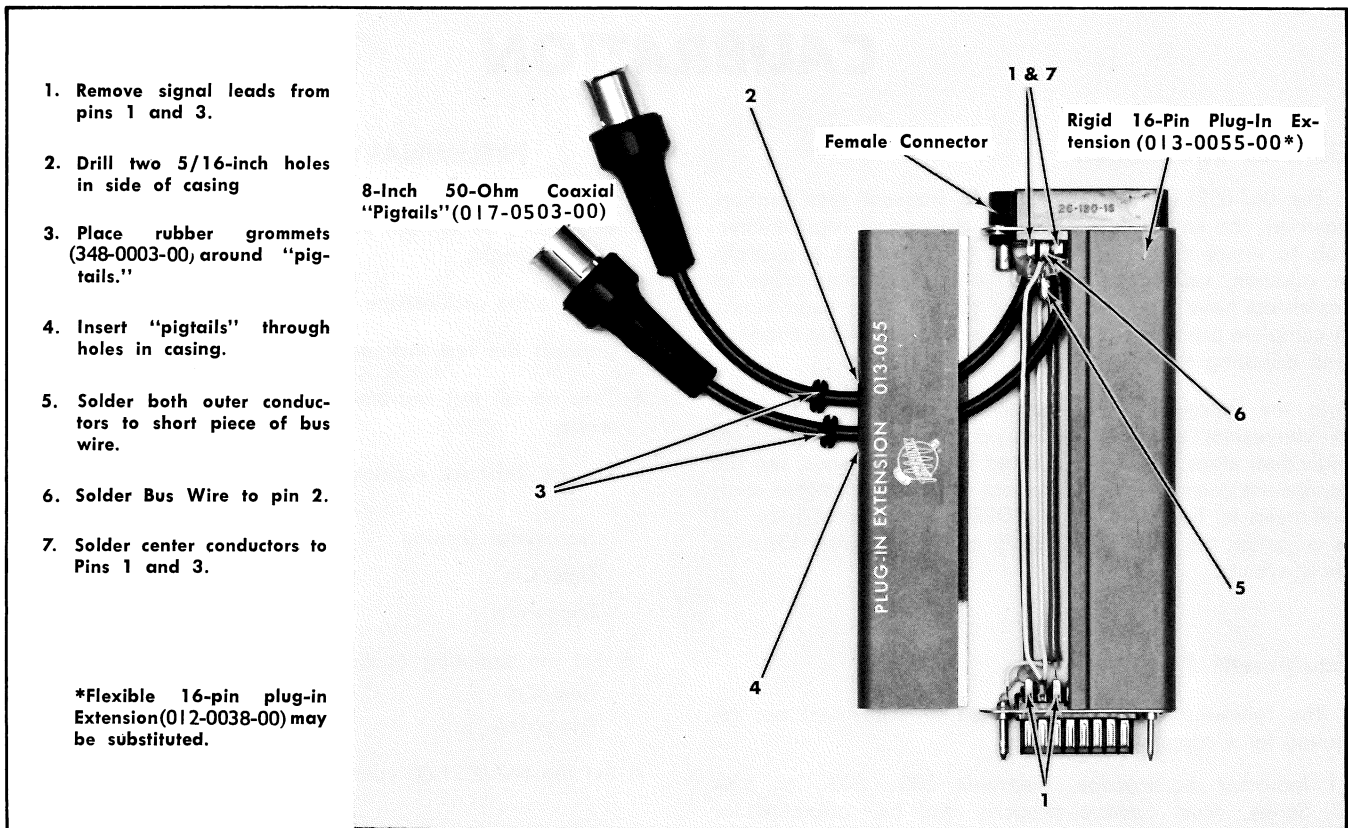

Fig. 6-1. Construction of special extender for checking pulse risetime. Tektronix part numbers are given in parentheses.
10. 16-pin plug-in extension, specially modified for checking Pulse Generator output. Construction of the extension is illustrated in Fig. 6-1.